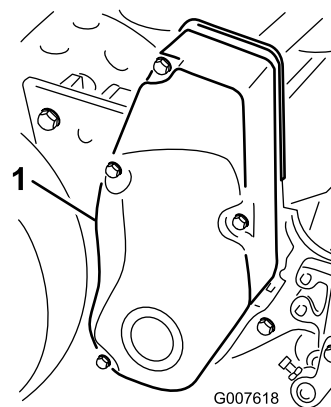

Figure 24
1. Remove the belt cover mounting fasteners and belt cover to expose the belt (Figure 24).